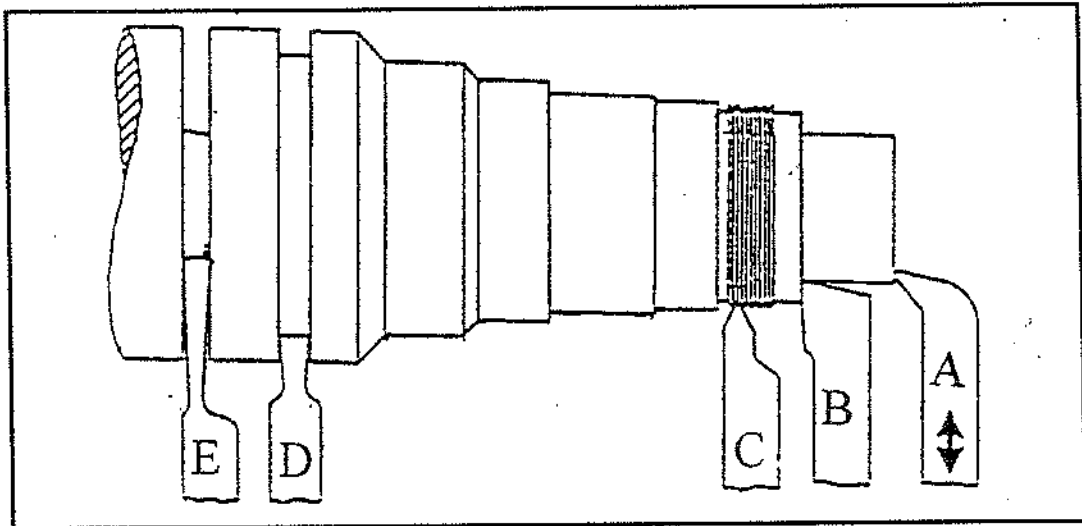

FIGURE 4
- 4.7 FIGURE 4 indicates various types of centre lathe cutting tools. Write down the letters (A–E) in the ANSWER BOOK and identify the cutting tools.